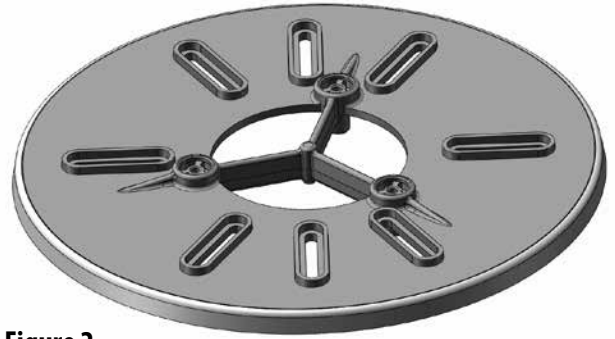

Figure 2
3. Place the Support Plate (#8) over the Vinyl Ring (#10) (Figure 2).